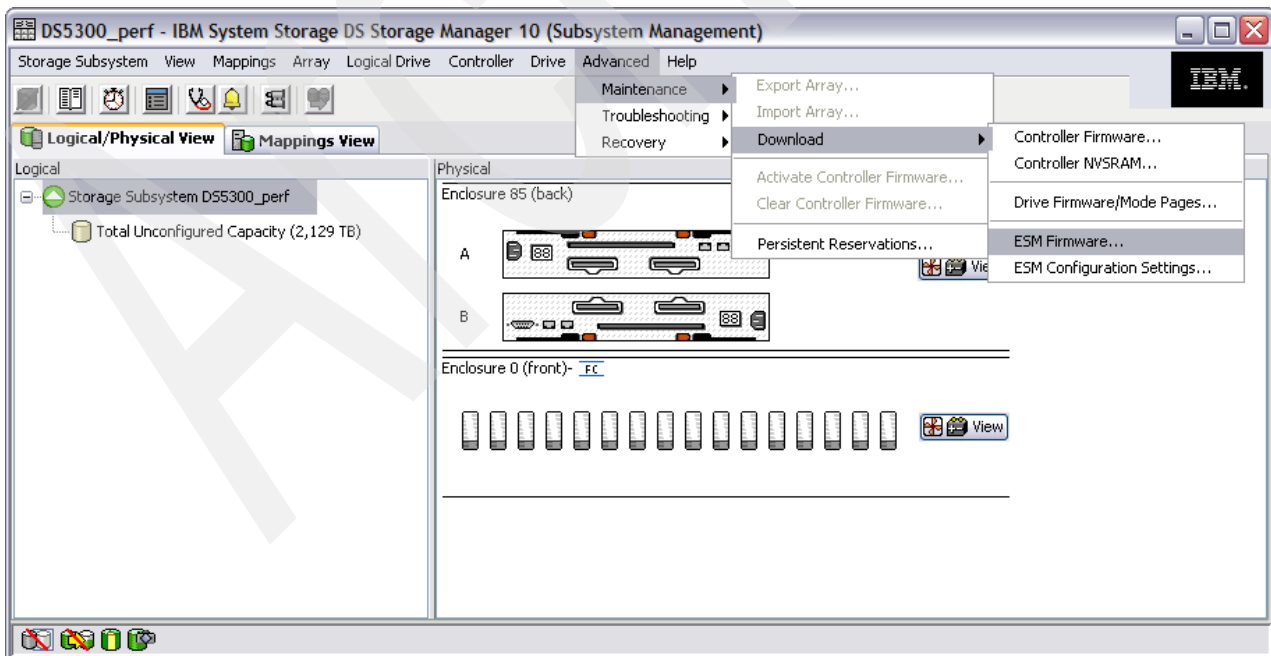

Figure 7-18 ESM firmware upgrade option
1. From the Subsystem Management window, select **Advanced** → **Maintenance** → **Download** → **ESM Firmware**, as shown in Figure 7-18.